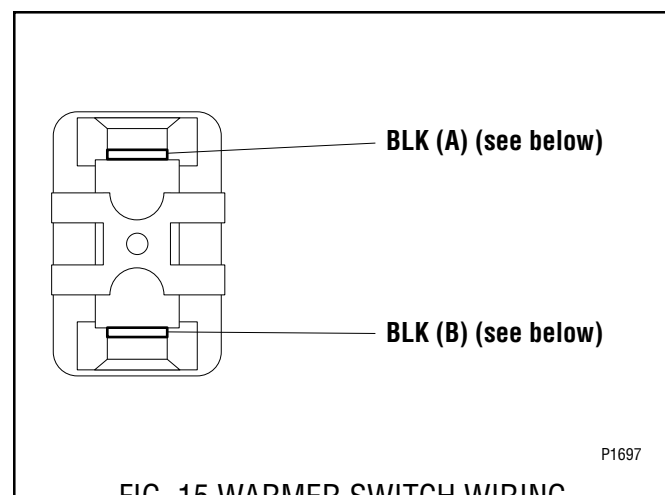

FIG. 15 WARMER SWITCH WIRING
3. Refer to FIG. 15 when reconnecting the wires.